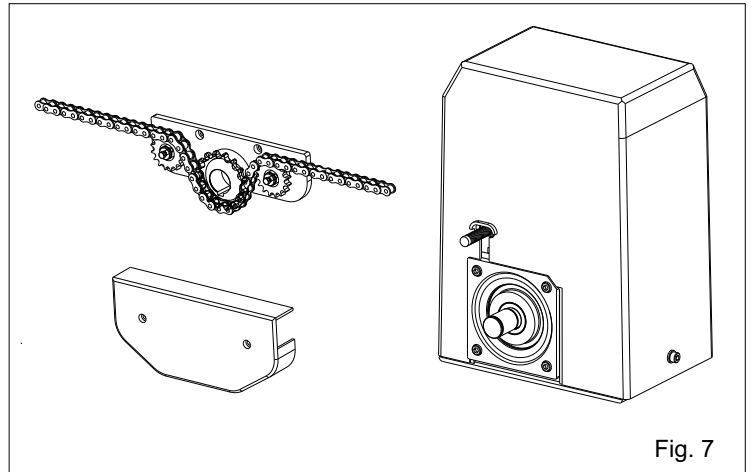
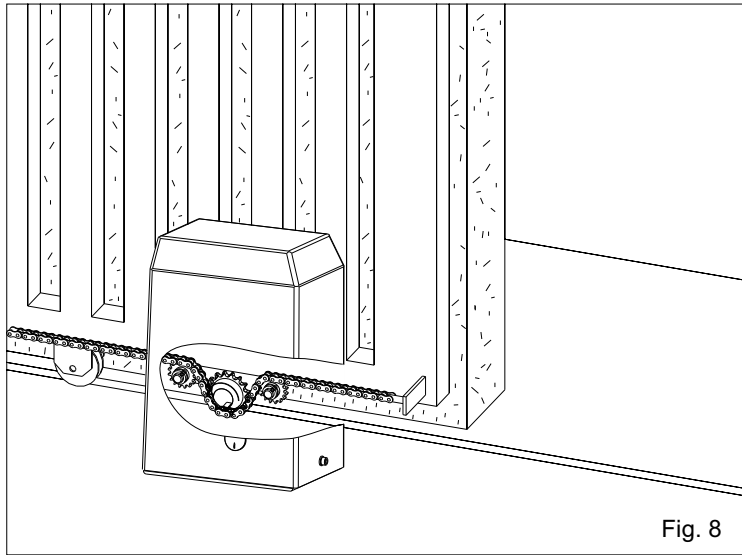
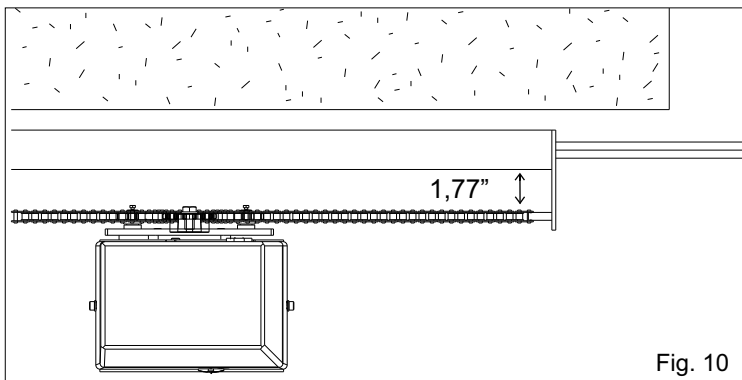
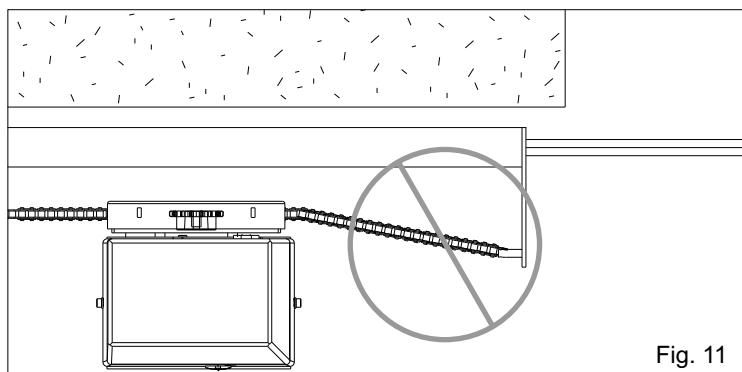

Fig. 7
Fig. 8
Fig. 10
Fig. 11
The assembling of the main parts which include the whole chain automation is illustrated in Fig. 7.
**Notice: the holes for the chain tensioner and so the chain itself must be to a minimum distance of 1,77" from the gate (Fig. 10).**
**5.2.** Install the chain making it pass through the pinion group as in Fig. 7. The chain must be always in line both vertically (Fig. 8) and horizontally (Fig. 10), if not perfectly aligned (Fig. 11 and 12) it may derail from the pinion group or the motor reducer risks a greater effort not allowing the right operating of the system.